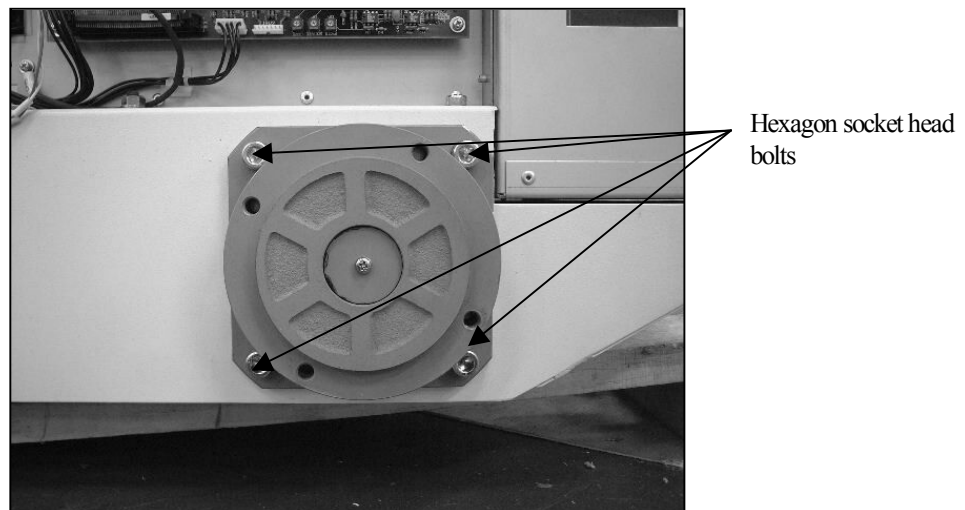

Fig. 6-58
12. As shown in Fig. 6-58, detach the hexagon socket head bolts which fix the motor to the main frame.